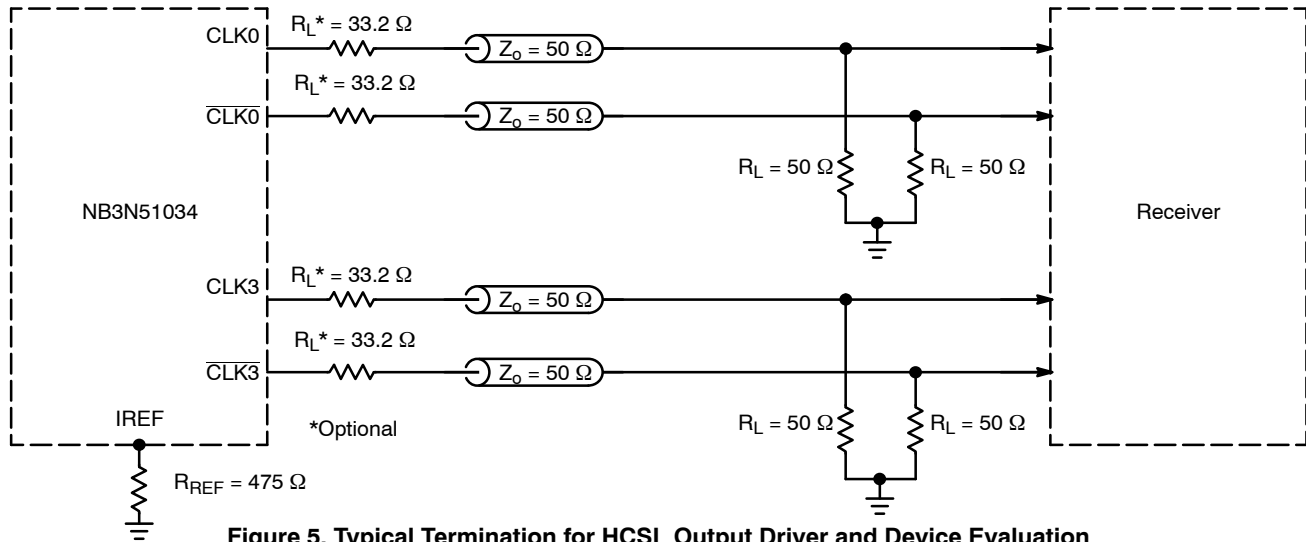

Figure 5. Typical Termination for HCSL Output Driver and Device Evaluation
- Measurement taken with outputs terminated with $R_S = 33.2$ Ω , $R_L = 50$ Ω , with test load capacitance of 2 pF and current biasing resistor set at 475 Ω . See Figure 5. Guaranteed by characterization.
5. Measurement taken from differential output on single-ended channel terminated with $R_S = 33.2 \Omega$, $R_L = 50 \Omega$, with test load capacitance of 2 pF and current biasing resistor set at 475 Ω . See Figure 5. Guaranteed by characterization.
19. Measurement taken from differential output on single-ended channel terminated with $R_S = 33.2 \Omega$, $R_L = 50 \Omega$, with test load capacitance of 2 pF and current biasing resistor set at 475Ω . See Figure 5. This parameter is guaranteed by characterization. Not tested in production.